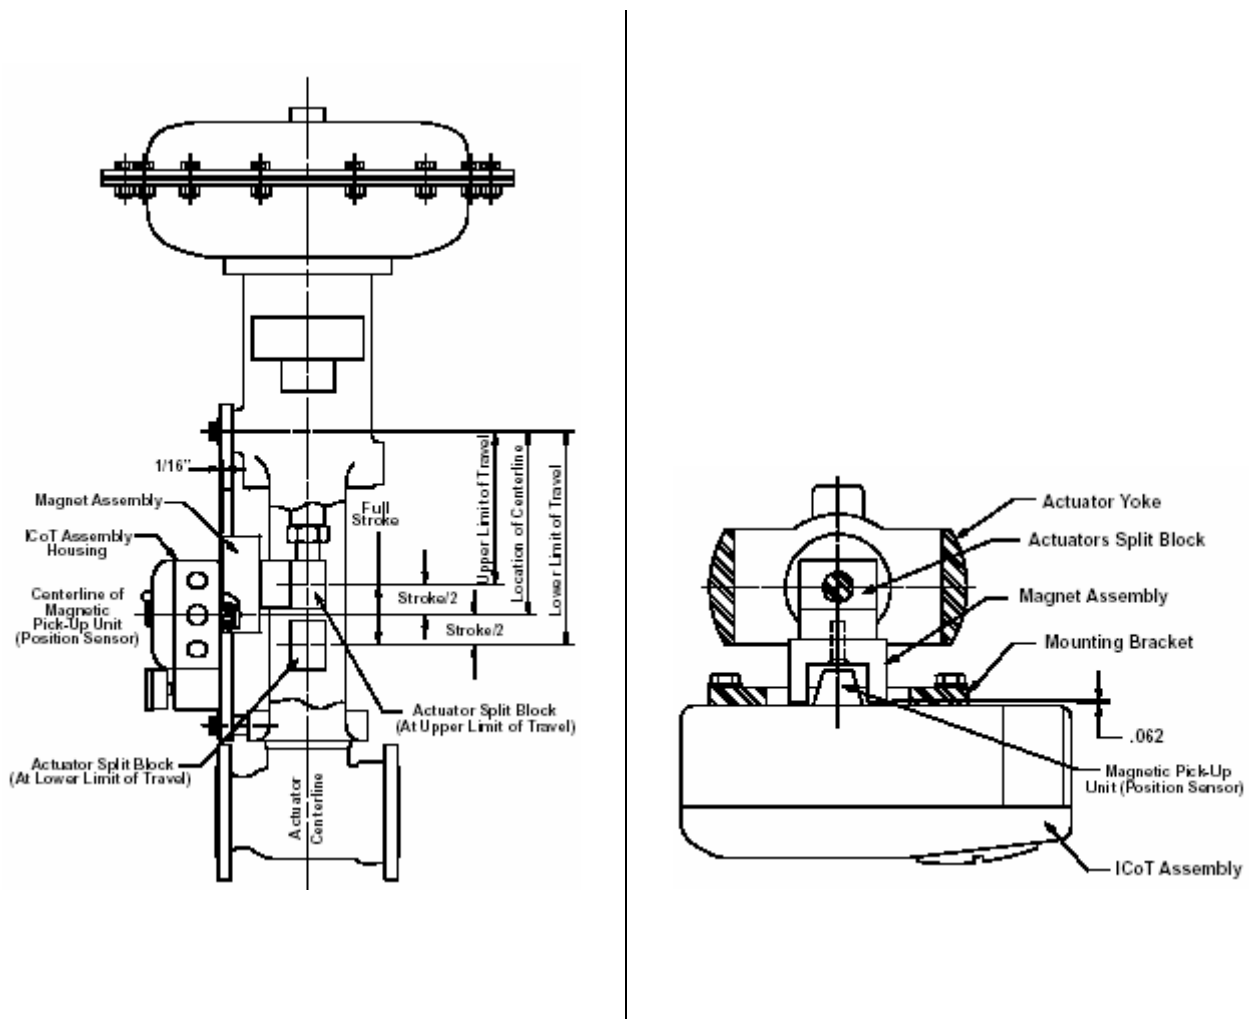

Figure 10
- 8.3.3. Mount the positioner to the mounting bracket. The positioner should be mounted so the Hall Effect Sensor unit of the positioner is centered between the limits of the magnetic assembly's stroke. After mounting the positioner, the magnet assembly should be within 1/8" of the back of the positioner (1/16" is ideal). (See Figure 10).